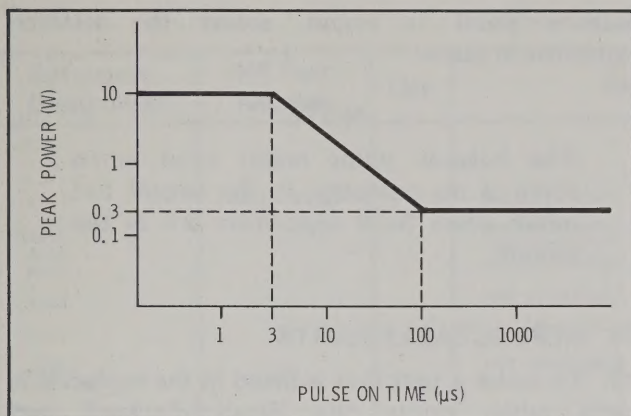
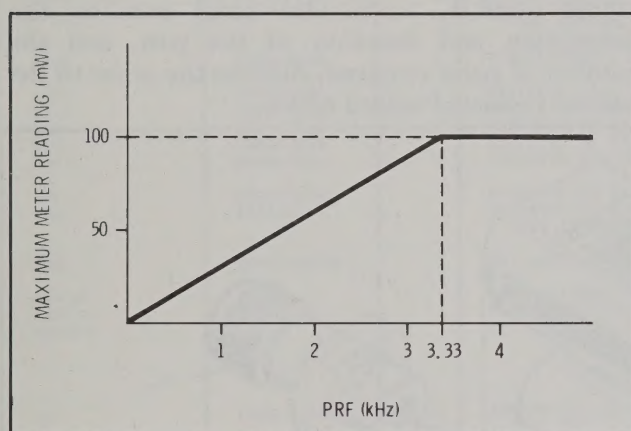

Figure 2. Maximum Energy Input to Power Sensor
Figure 3. Maximum Power Reading vs Pulse Repetition Frequency (Pulse Width < 100 μs)
Exceeding the energy and power levels shown in Figures 2, 3, and 4 may result in damage to the power meter system.
30. Figure 2 expresses the absolute maximum energy input in graphical form. Figures 3 and 4 show the maximum levels that may be indicated by the power meter, as they relate to pulse repetition frequency (PRF) and duty cycle, and still be within the allowable energy levels expressed in Figure 2.